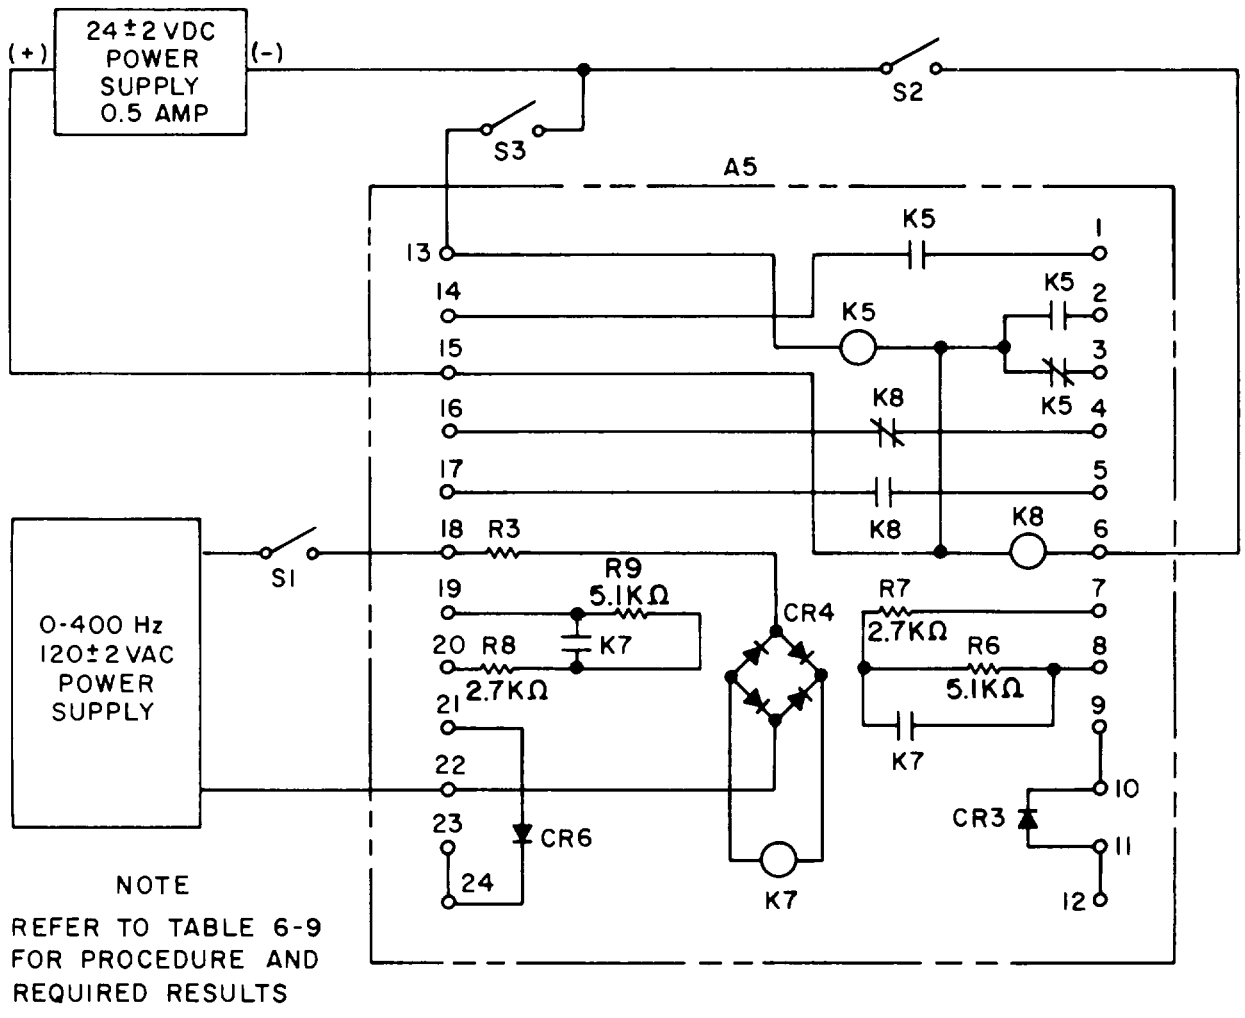

Figure 6-23. DC relay assembly (A5) test setup
a. Connect the DC relay assembly to test equipment as illustrated in figure 6-23 and perform test specified in procedural analysis table 6-9.